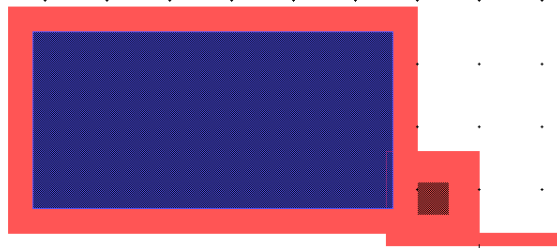

Figure 146: Creating Voltage BC Tags
- ☑ Draw a box over the anchor, covering it completely as shown in (Figure 146).